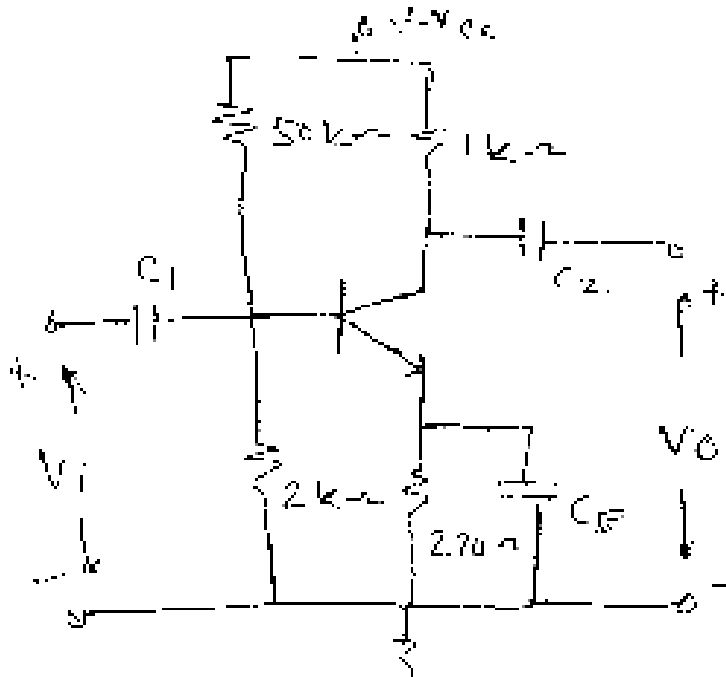

Figure 5
10. a) For the BJT circuit shown in figure 5, determine A_I , R_I , R_o and A_v . Assume for BJT, $h_{ie} = 1.1 \text{ k}\Omega$, $h_{fe} = 50$, $h_{re} = 25 \times 10^{-4}$, $h_{oe} = 2.5 \times 10^{-6} \text{ A/v}$.